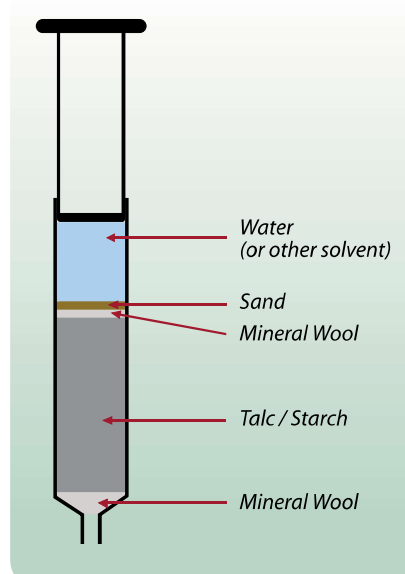

Figure 1 - Setup of syringe.
- Insert a loose plug of mineral wool into the syringe (Figure 1) and tamp down with a stirring rod.